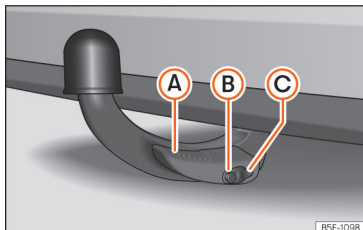

Fig. 176 Tow hook fixed correctly
- Lever **A** is facing upwards » **Fig. 176**.
- The red and green part of the unlocking bolt **B** is completely visible » **Fig. 176**.
- Cover **C** is over the lock » **Fig. 176**.
- Keep your hands away from the lever when releasing the tow hook to avoid trapping your fingers » **Fig. 176 A**.